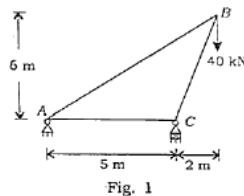

Fig. 1
2. (a) Evaluate the forces in all the members of the truss shown in Fig. 1 by method of tension coefficient. 7